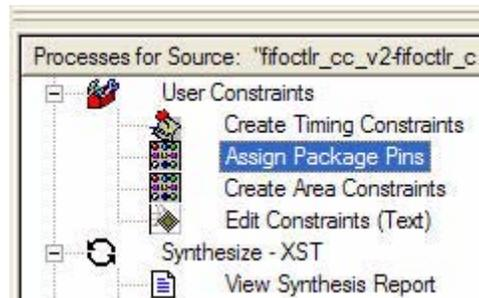

Figure 6: Launching the PACE tool from ISE
- Launch the PACE tool from ISE or command line (see Figure 6).